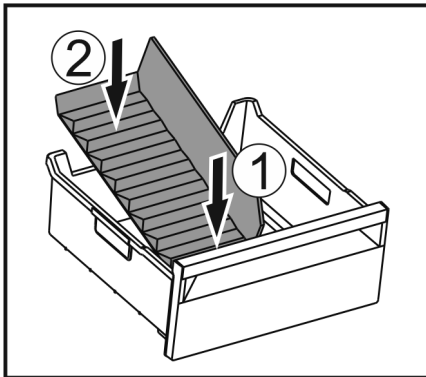

Fig. 123
- ▶ Insert the front part of the ice compartment divider. Fig. 123 (1)
- ▶ Lower the rear part of the ice compartment divider to the drawer bottom. Fig. 123 (2)